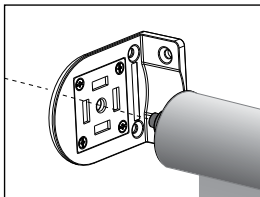

FIGURE 1 - Insert pin end
- Pushing the pin end towards its bracket, insert the hooks on the motor side straight into the two slots in the bracket [FIG 1].